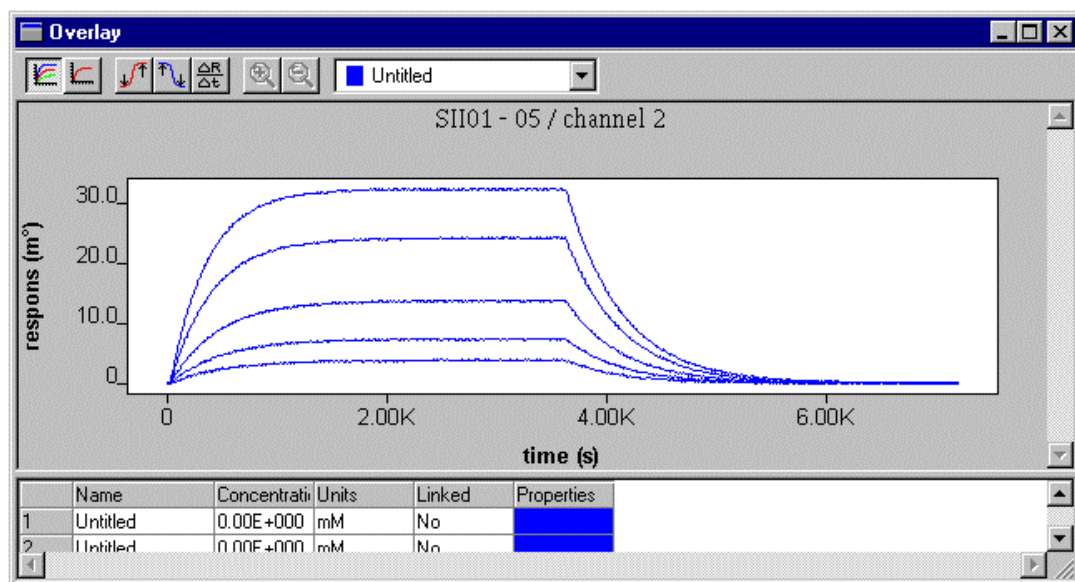

Figure 2.21: Overlay plot of SII01/05 channel 2 data set. The interaction plots resemble the non-specific interaction of the analyte with a blank surface.
- The overlay plot contains data of channel 2 only.(figure 2.21)